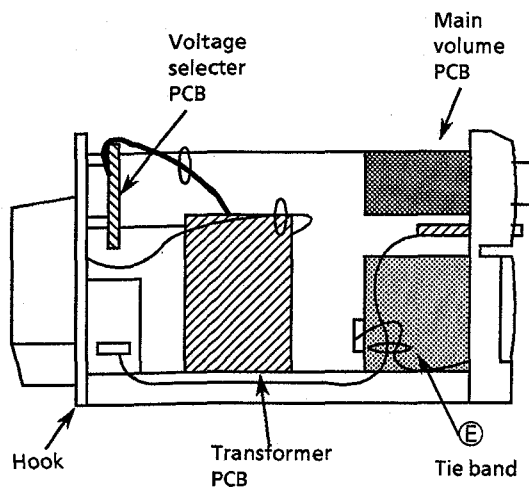

Figure 3 Left side view
3. Release the the both hooks to remove the rear panel (Figure 3, 4).